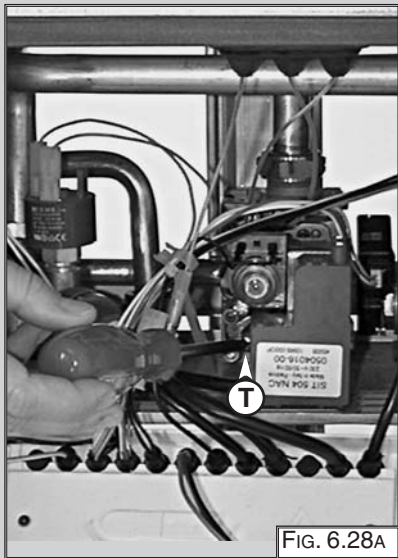

FIG. 6.28A
2. Remove the screw "T" (FIG. 6.28A);